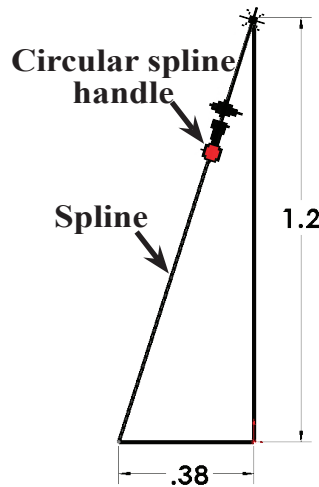

Fig. 4
Step 7. Click **Spline**  (S) on the Sketch toolbar.
Step 8. Draw **spline between top endpoint of horizontal line and left endpoint of vertical line**, **Fig. 4**. Press Escape to end spline.
Step 9. Click spline to select it, **Fig. 4**.
Step 10. Grab the circular spline handle (small gray dot) at top endpoint, **Fig. 4** and pull out to the left, to adjust spline and display the control polygon handles  **Fig. 5**.